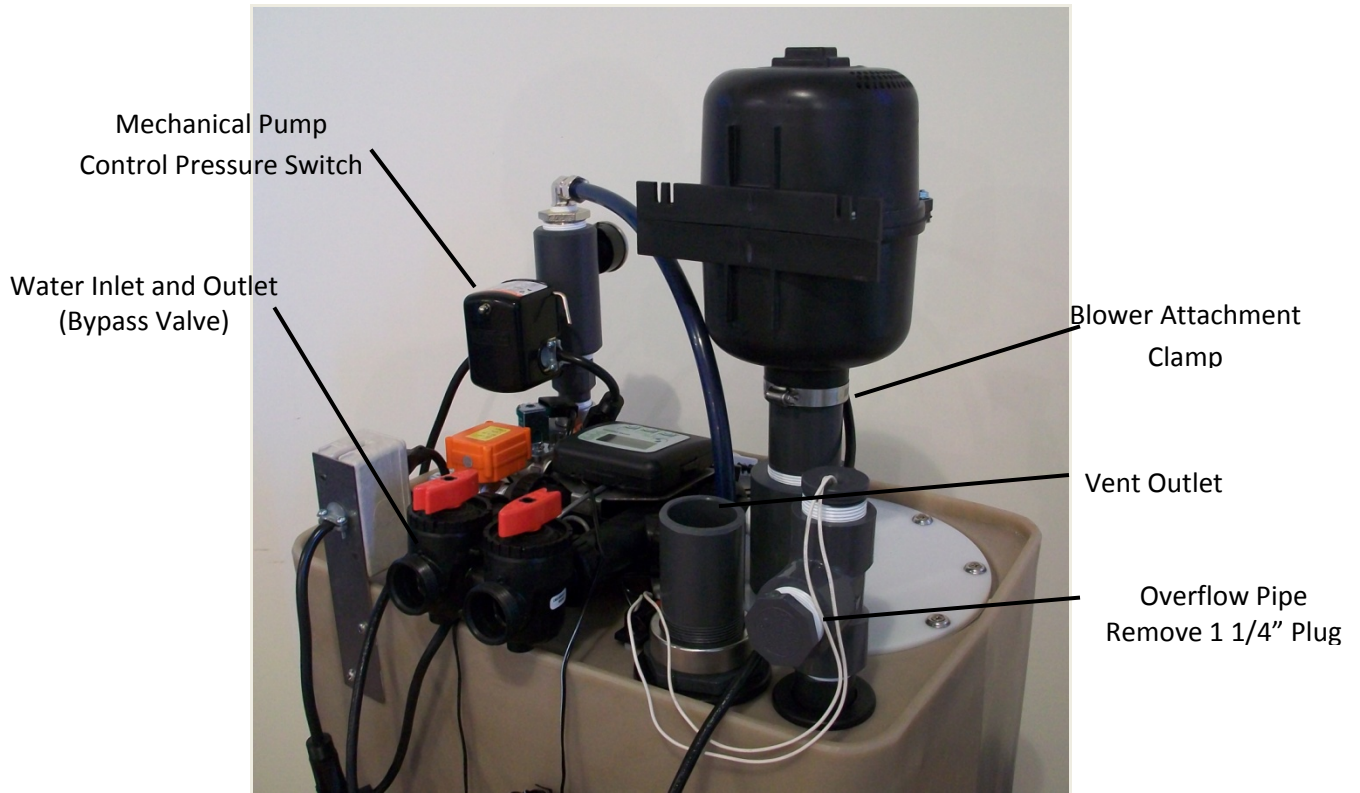

Figure 8 - Installation Points
This valve has two red handles, and is located near the back of the unit. See Figure 8. The valve has two positions:
3. In case of a malfunction, the unit could overflow. Bubble-Up® Jr Interactive™ is fitted with an overflow pipe. (The overflow pipe is mounted near the rear of the unit. See Figure 8) Take this into account when positioning the unit. It is best if the unit can be positioned near a drain or sump pit with a sump pump.
11. Firmly slip the blower onto the blower attachment nipple and tighten clamp to secure blower to nipple. See figure 8.
17. Install the blower. Firmly slip the blower onto the blower attachment nipple and tighten clamp. See figure 8.